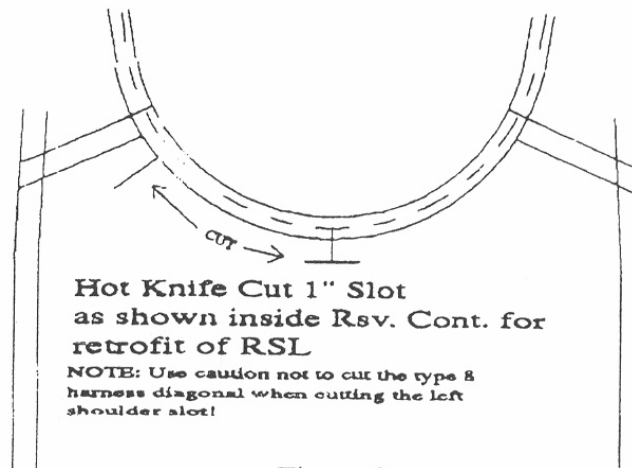

Figure 1.
Step 2. Hot knife two 1" slots in the inside layer of the reserve container. (See Figure 1). Note: Use extreme caution when using a hot knife near the reserve container; do not cut the Type-8 diagonal harness webbing when cutting the left shoulder slot.